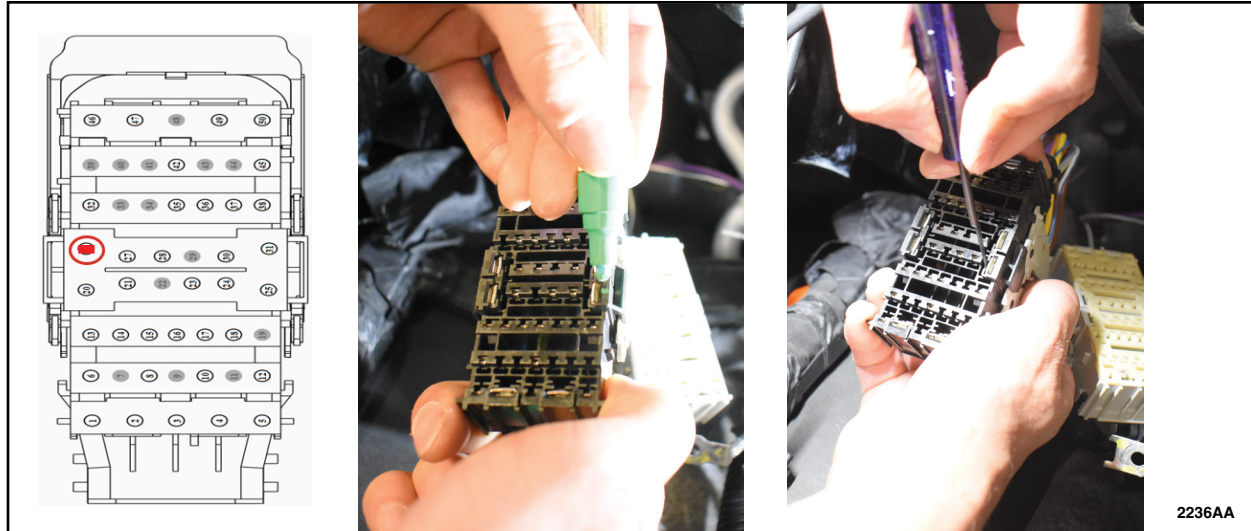

FIGURE 33
39. In connector C1035B identify cavity 26 which contains a brown wire. Remove the brown wire located in cavity 26 from the C1035B connector using a terminal tool. See Figure 33.